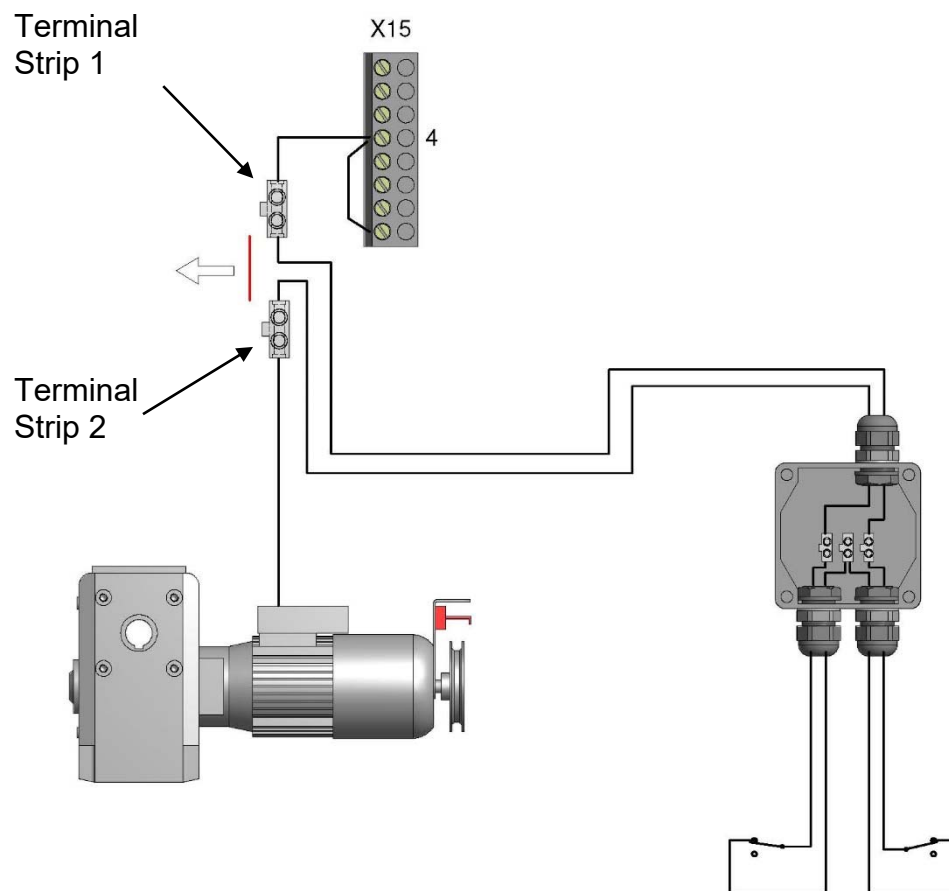

Figure 13
**4.7 Wiring in the Counterweight Micro Switches:** Following Figure 13 connect the Counterweight Containment Box (E1) Micro-Switches in series with the Motor Closed Limits.